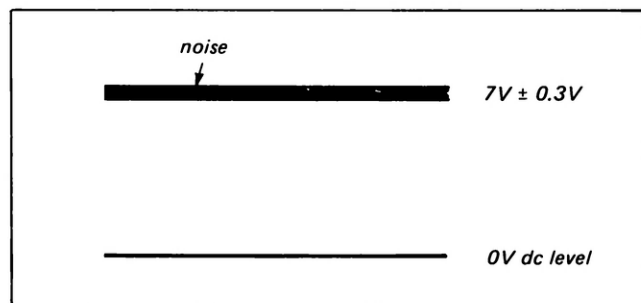

Fig. 4-18. Bias voltage adjustment
- (1) Set up the E-E mode (Insert the cassette and set up the STOP mode.), and no-signal condition at the VIDEO IN. Move "CAMERA/TUNER" selector switch to CAMERA position.
- (2) Connect the oscilloscope to pin 8 of IC2. (Input range; dc)
- (3) Adjust RV2 for $7V \pm 0.3V$. (See Fig. 4-18.)